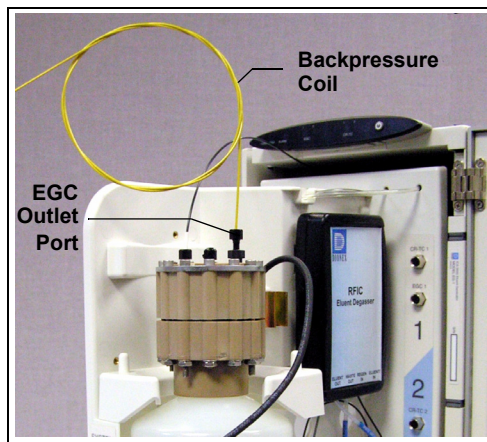

Figure 9-16. EluGen Cartridge Outlet Connection for Conditioning Procedure
6. Connect one end of the backpressure coil to the EluGen cartridge **OUTLET** port; leave the other end of the coil unconnected (see Figure 9-16).